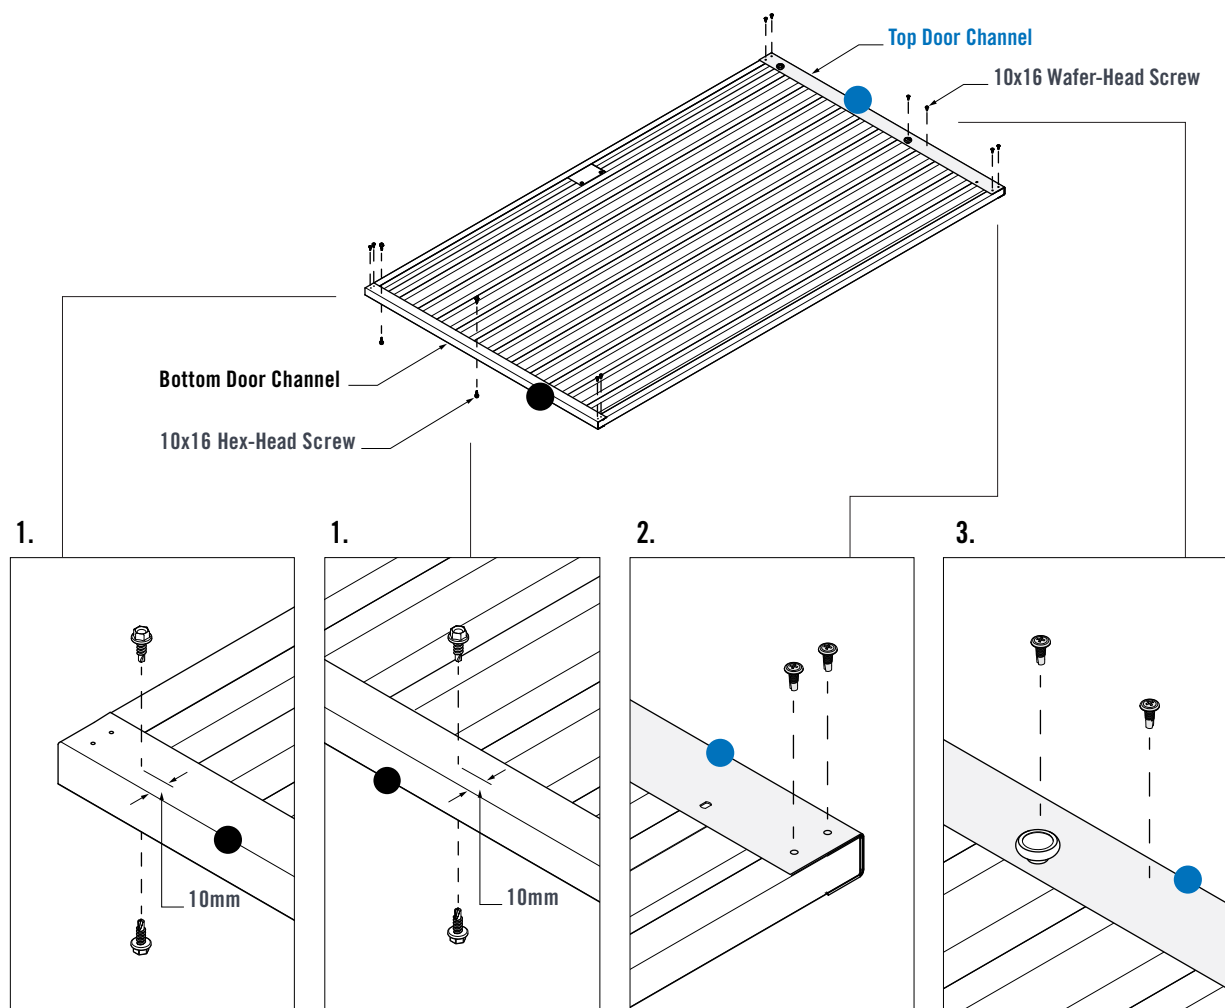

FIGURE 6.6
1. Fasten a 10x16 Hex-Head Screw into the mid-point of the Bottom Door Channel. Ensure the screw is fastened approximately 10mm from the bottom face of the Channel. Fasten a 10x16 Hex-Head Screw near the Handle Mount end of the Bottom Door Channel. Flip over the Door Assembly so that the underside is now facing up. Fasten two more 10x16 Hex-Head Screws in the same manner on the opposite side of the Bottom Door Channel (Figure 6.6).
2. Fasten two 10x16 Wafer-Head Screws through pilot holes in the Top and Bottom Door Channels and into the Vertical Door Channels at all four corners (Figure 6.6).
3. Fasten a 10x16 Wafer-Head Screw through the Top Door Channel and into the two Sheet Crests on both sides of the Door Wheel (Figure 6.6).